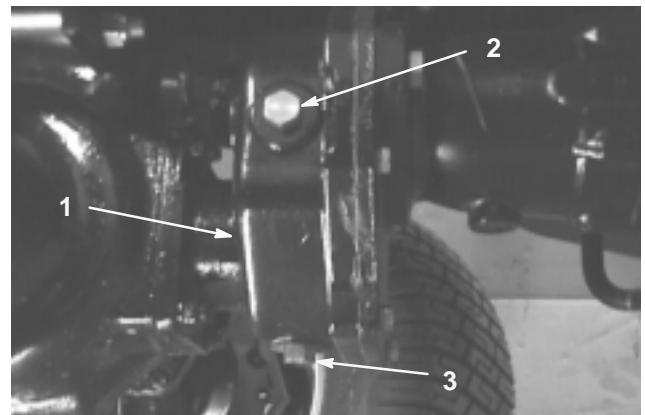

Figure 56
2. Remove drain plug from clutch housing (Fig. 56) allowing fluid to drain into drain pan.